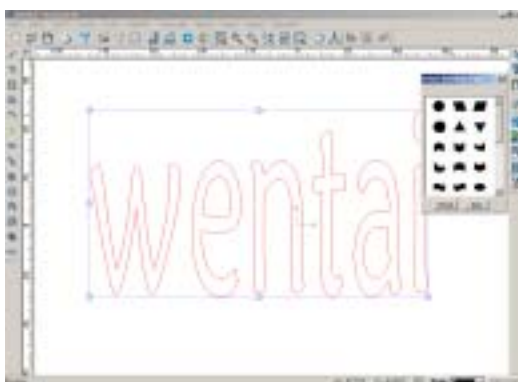

Fig. 5-46
3. A box with several nodes and a dialog are shown. (Fig. 5-46)